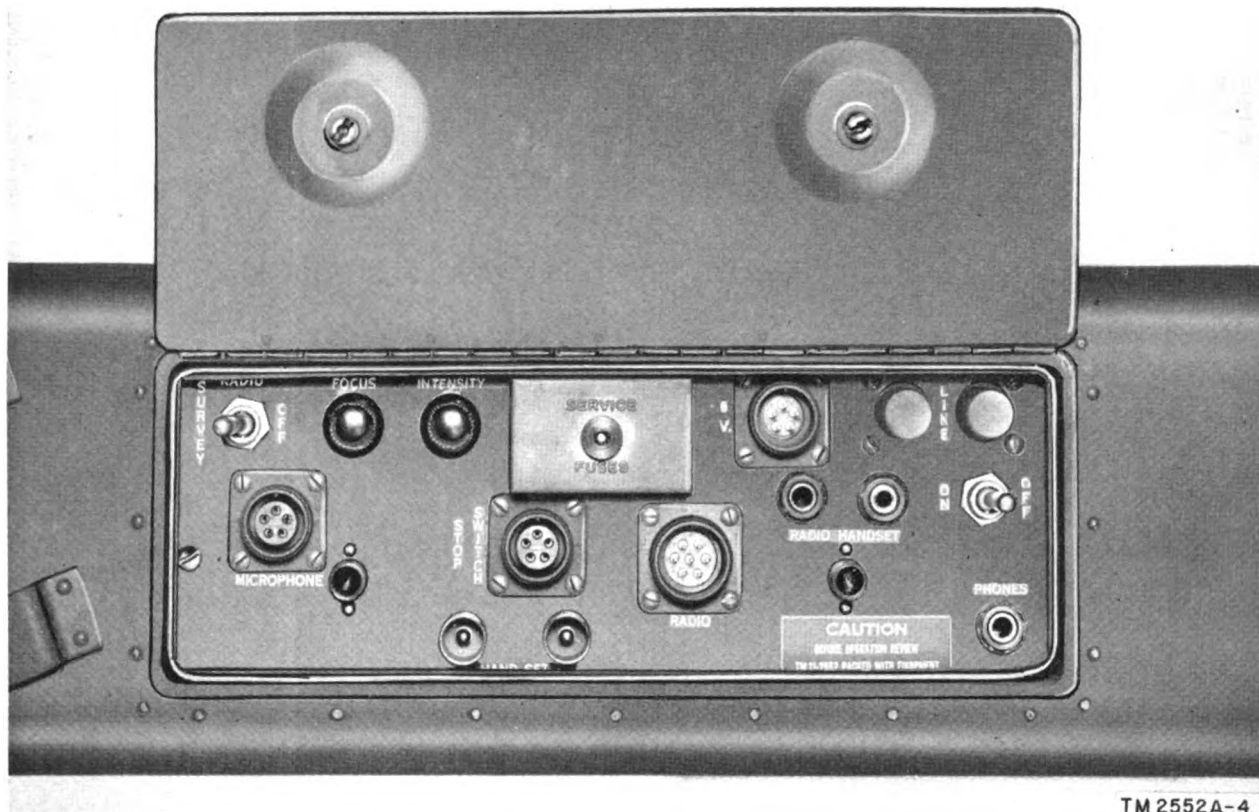

Figure 4. Recorder BC-1323-A, side controls exposed for operation.
c. SIDE PANEL (figs. 4 and 15). On the recorder side panel are two female connectors (J1 and J4) marked MICROPHONE and STOP SWITCH; two male connectors (P1 and P2) marked RADIO and 6V; two Binding Posts